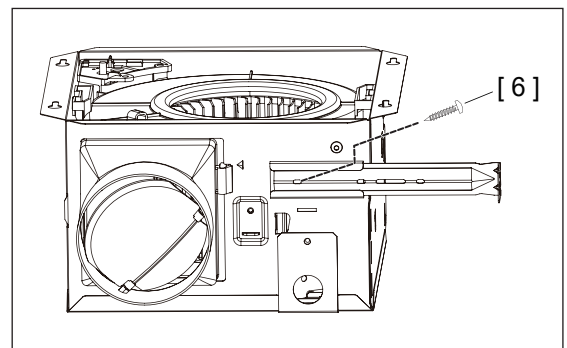

Fig 10
5. Install one Short Screw [ 6 ] to the hole of the Short Bracket [ 4 ] and secure. The hole should be close to the center of the slot. (Fig 10)